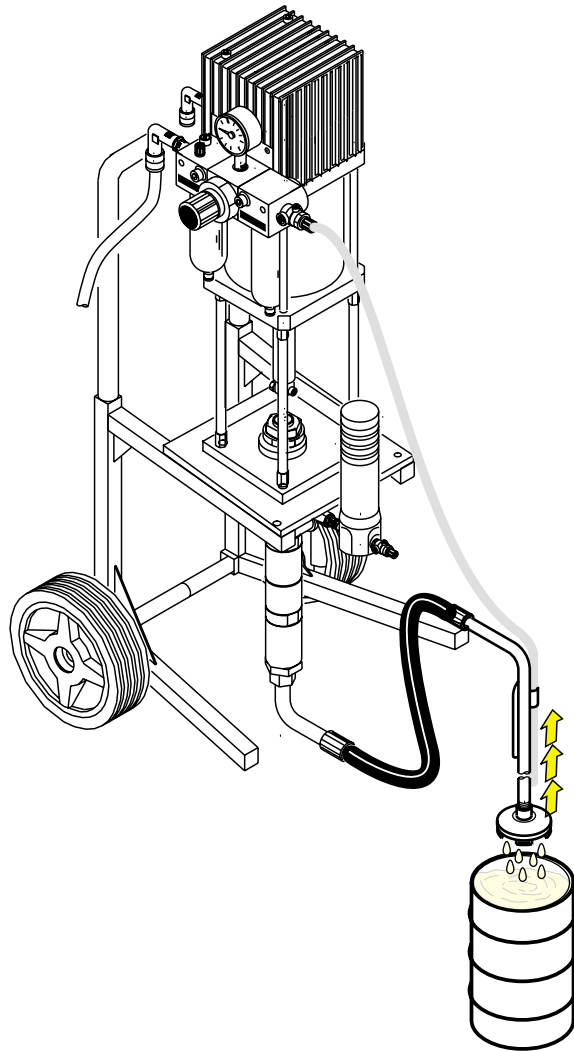

Fig.39
1) Lift the suction pipe and the recycle pipe from the container, making sure that the product does not fall on the ground (fig.39).